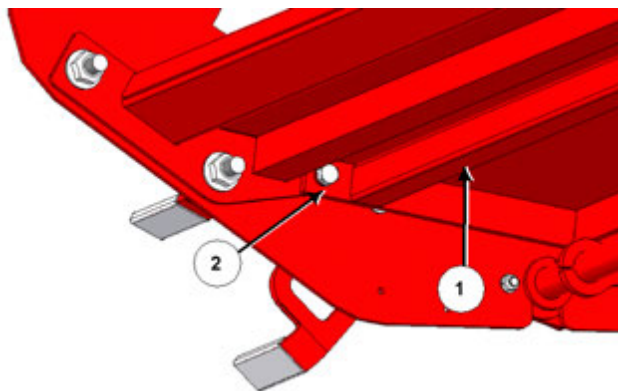

Figure 15: Remove bolt on front tub wall
- b. Supporting the bottom door (1), carefully remove the bolts (2) fastening the bottom door to the front and rear tub walls, and lower; see *Figure 15*.